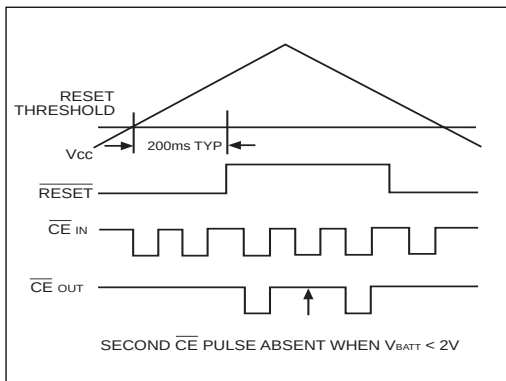

Figure 11. Backup-Battery Monitor Timing Diagram
The **SP791** low-battery voltage function monitors V_{BATT} . Low-battery detection of $2.0V \pm 0.15V$ is monitored only during the reset-timeout period (200ms) that occurs either after a normal power-up sequence or after the $\overline{MR}$ reset input has been returned to its high state. If the battery voltage is below 2.0V, the second CE pulse is inhibited after reset timeout. If the battery voltage is above 2.0V, all CE pulses are allowed through the CE gate after the reset timeout period. To use this function, after the 200ms reset delay, write 00 (HEX) to a location using the first CE pulse, and write FF (HEX) to the same location using the second CE pulse following $\overline{RESET}$ going inactive on power-up. The contents of the memory then indicates a good battery (FF) or a low battery (00), Figure 11.